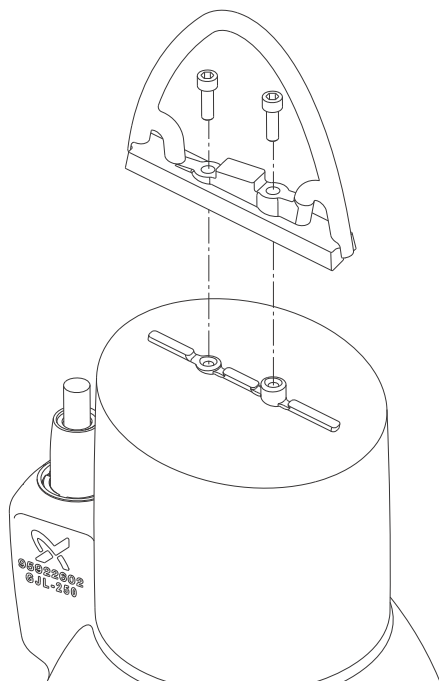

Fig. 24 Position of lifting bracket
5. Remove the eyebolt (O) from the shaft.
6. Fit the lifting bracket (190) in the correct direction (see fig. 24) and tighten the two screws (118a). See section 6. Tightening torques and lubricants.